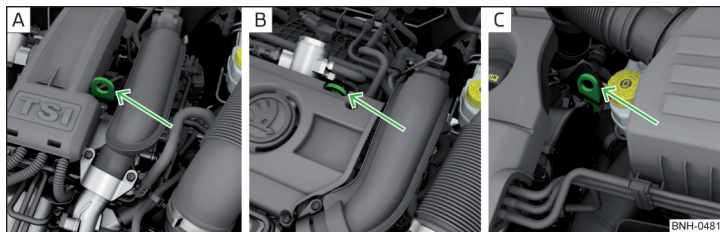

Fig. 139 Engine earth: START-STOP system
- 1.2 l/63 kW TSI and 1.2 l/77 kW TSI engines » Fig. 139 - A
- 1.4 l/90 kW engine » Fig. 139 - B
- 1.6 l/77 kW TDI CR engine » Fig. 139 - C